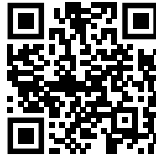

Fig. 86
- ▶ Öppna Liebherr SmartMonitoring Dashboard. (se Fig. 86)